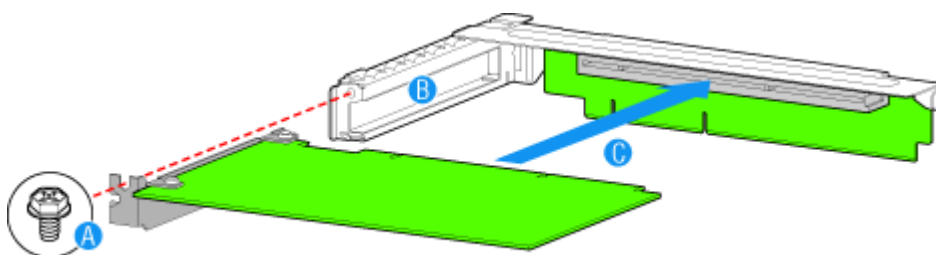

Figure 148: Installing an Add-In Card
5. Remove the screw at the rear of the riser assembly. See letter “A” in Figure 148.
6. If a filler panel is installed over the opening at the rear of the riser assembly lift it from the riser assembly. See letter “B” in Figure 148.
7. Insert the add-in card into the socket in the riser assembly. Push the add-in card into place firmly until it seats in the riser card connector, but use caution so you do not twist or bend the card. See letter “C” in Figure 148.
8. Re-install the screw you removed in step 5. See letter “A” in Figure 148.